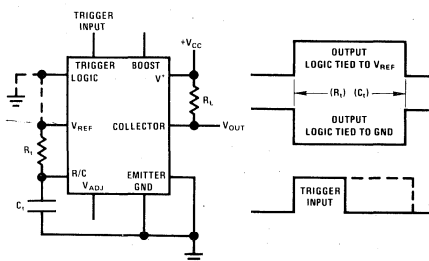

FIGURE 1. Basic Timer-Collector Output and Timing Chart
*Figure 1* is a basic timer using the collector output.  $R_t$  and  $C_t$  set the time interval with  $R_L$  as the load. During the timing interval the output may be
either high or low depending on the connection of the logic pin. Timing waveforms are shown in the sketch along side *Figure 1*. Note that the trigger pulse may be either shorter or longer than the output pulse width.